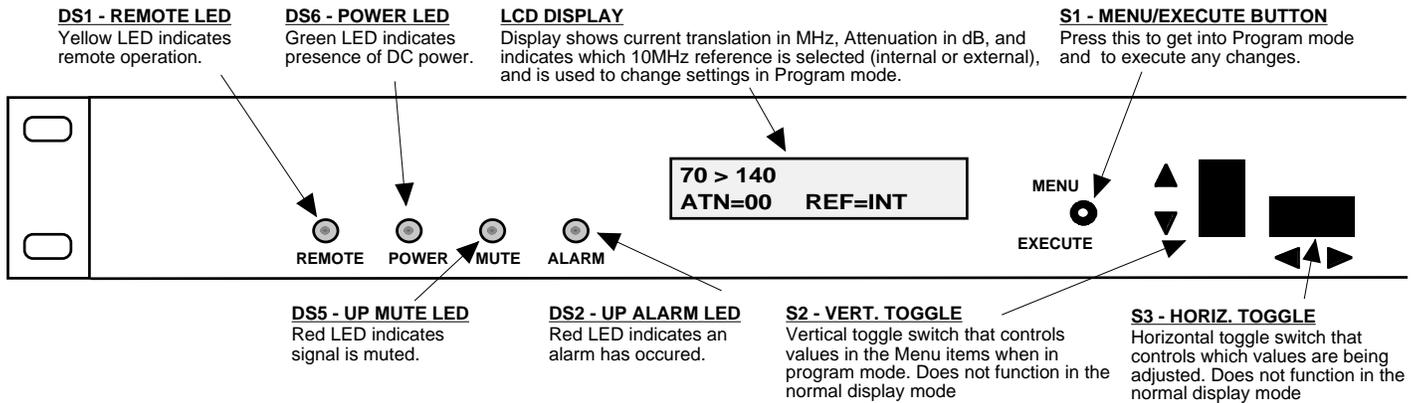

FIGURE 2.2 2083-714 Front Panel Controls and Indicators
7. Be sure DS6 (green, POWER) is on and DS2 (red, ALARM) is off (Figure 2.2).
Alarm indications appear on the LEDs (see figure 2.2).